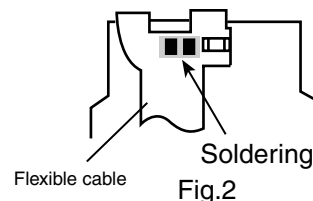

Fig.2
3. Solder is put up before the card wire is removed from connector CN601 on the main board as shown in Fig.1 and Fig. 2.
■ **Replacing the power IC (See Fig.2 to 4)**